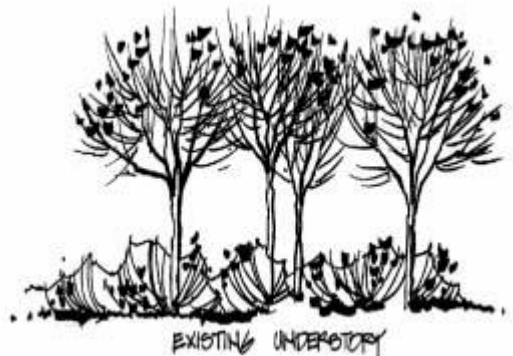

FIGURE 18
4.2.3 Trees left in clusters with existing understory increases a tree's chance for survival because the root system will be less affected as shown in **Figure 18**.